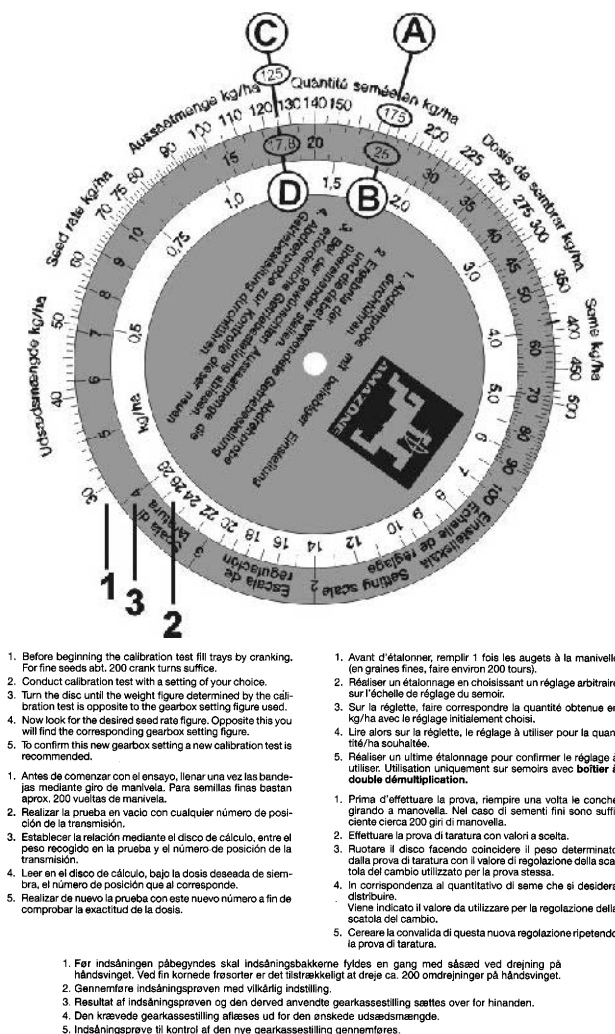

Fig. 70
The disc rule consists of three scales: One outer white scale (Fig. 70/1) for all seed rates above 30 kg/ha and an inner white scale (Fig. 70/2) for all seed rates below 30 kg/ha. On the central, coloured scale (Fig. 70/3) gearbox settings from 1 to 100 are printed.
- Align the seed rate 175 kg/ha (Fig. 70/A) and the "gearbox setting position 25" (Fig. 70/B) on the disc rule.
- Now read off the disc rule the gearbox setting figure for the desired seed rate of 125 kg/ha (Fig. 70/C). In our example that is the "gearbox setting position 17.8" (Fig. 70/D).